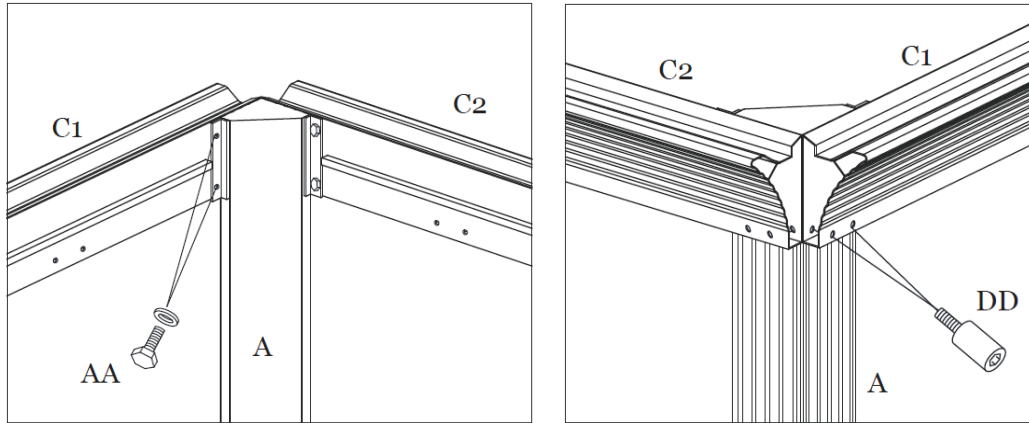

Figure 4-1
Step 4A: Attach Corner Posts (A) to Lintel (C1 and C2) first with Bolts (AA) then with Bolts (DD). Repeat for opposite side Lintels (C1 and C2). See Figure 4-1.